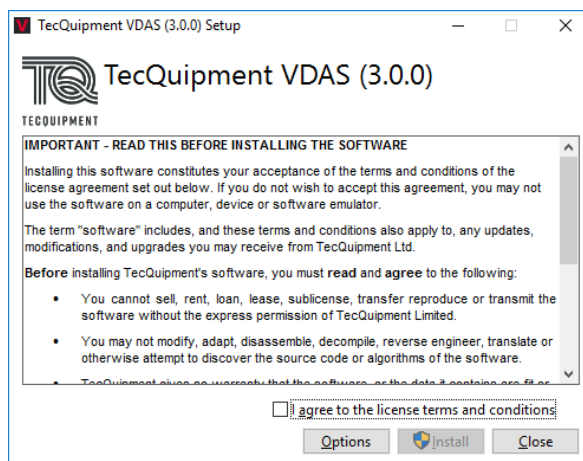

Figure 18 First VDAS® Installation Screen
3. The first screen of the TecQuipment software will appear as in Figure 18. Read the license terms and conditions, then select the option to agree. Click on the 'Install' button.